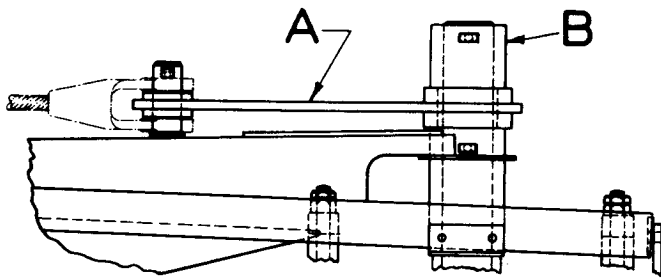

FIG. 9
5. If pendant suspension is to be used, replace the two sheaves and rope guard on each end of the boom point shaft by the pendant anchor link "A" and retainer "B" as shown in Fig. 9. The four small sheaves will be used in making up the suspension yokes at the outer end of the pendants as only one set of suspension sheaves is furnished on combination machines.